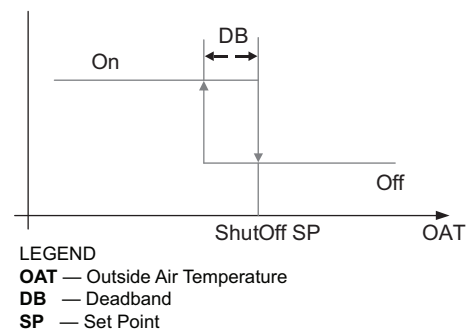

Fig. 64 — Hysteresis Settings
Hysteresis setting (DB) defaults to 2°F (–17°C). See Fig. 64.